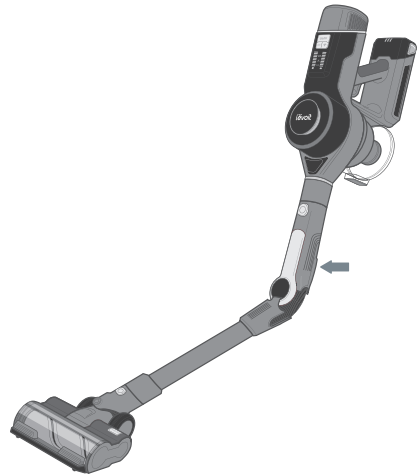

Figure 1.8
2. Grab the vacuum handle and carefully push down so the stick flexes into an L shape [Figure 1.8].